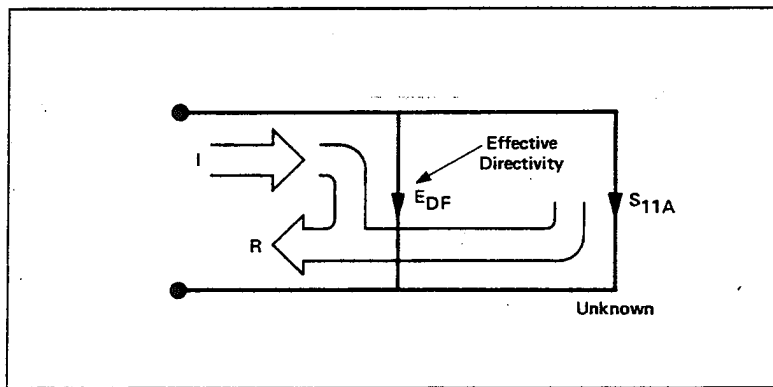

Figure 7-51. Effective Directivity EDF
**Directivity error.** However, all of the incident signal does not always reach the unknown (see Figure 7-51). Some of (I) may appear at the measurement system input due to leakage through the test set or other signal separation device. Also, some of (I) may be reflected by imperfect adapters between signal separation and the measurement plane. The vector sum of the leakage and miscellaneous reflections is directivity, EDF. Understandably, the measurement is distorted when the directivity signal combines vectorally with the actual reflected signal from the unknown,  $S_{11A}$ .